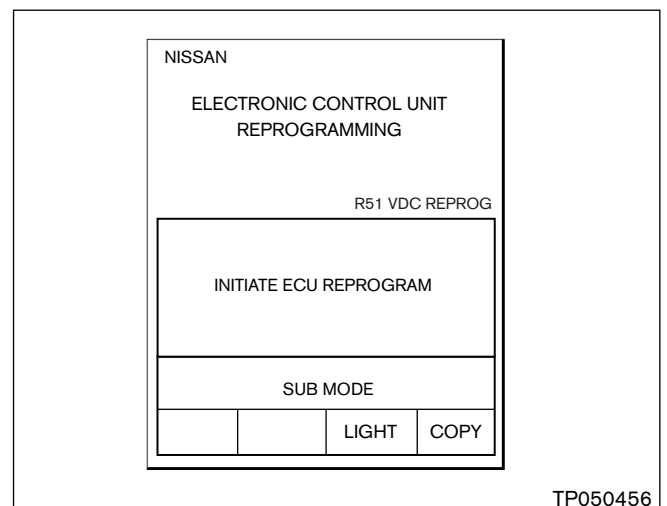

Figure 13
- CONSULT-II will turn “ON” automatically (see Figure 13).